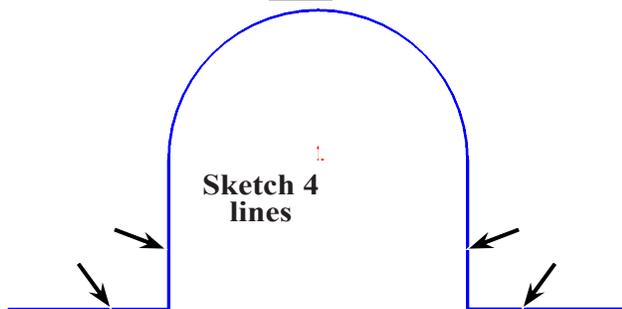
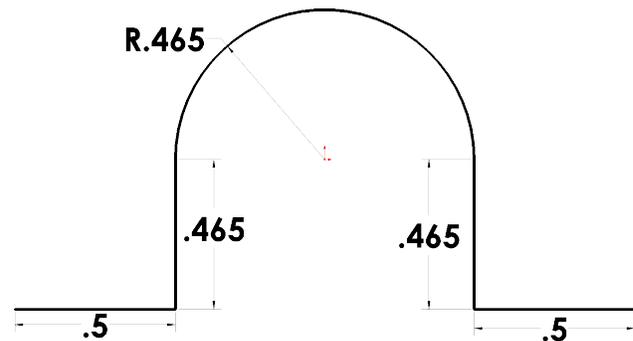

Fig. 3
Fig. 4
Step 6. Sketch the lines in **Fig. 3**. Start the lines tangent at the endpoint of the arc.
Step 7. Click **Smart Dimension**  (S) on the Sketch toolbar.
Step 8. **Dimension the .465 radius first**, then the others dimensions, **Fig. 4**.